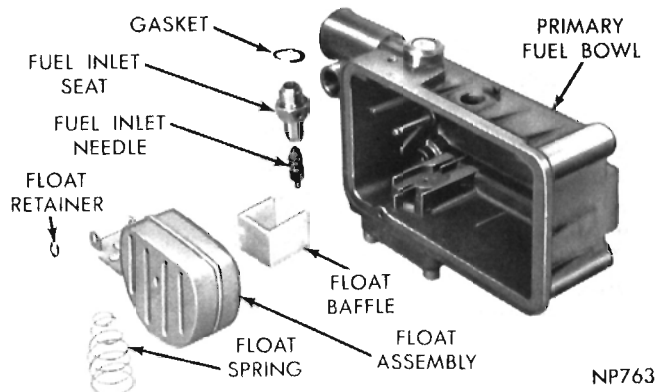

Fig. 11—Float, Needle, Seat and Baffle (Exploded View)
(3) Install new gasket on fuel inlet needle seat (Fig. 11) then install in fuel bowl. Tighten securely. Slide fuel inlet needle into seat.
(4) Install float baffle in position, then slide float hinge over pivot and secure with "E" clip. Install float spring.
(5) Install new gasket over fuel inlet fitting, then install fitting in primary fuel bowl. Tighten securely.